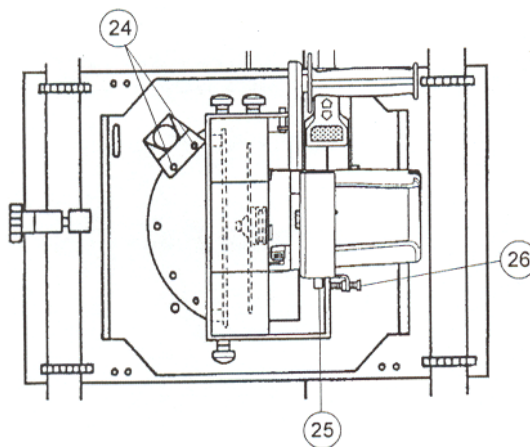

Figure 33: Adjusting the Blade (Perpendicularity)
- a. Loosen (but do not remove) the two hex-head nuts holding the indexing pin assembly (Figure 33, #24).
1. If the tool does not cut at 90° to the surface of the workpiece, loosen the two motor mount nuts (Figure 33, #25). An adjusting screw (26) is located to the right of the lower nuts.